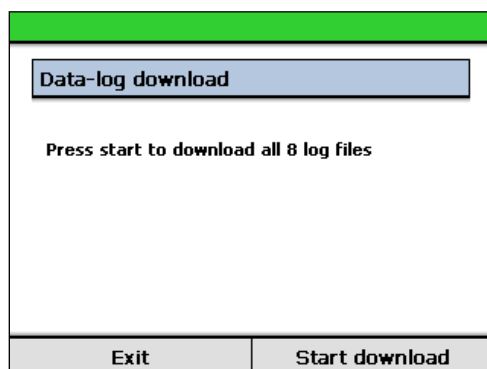

Figure 35 Data-Log Download Screen
- 2] From the main menu, enter the 'Data-logging' sub-menu and select 'Download data to USB'. The data-log download screen will be shown as per Figure 35.